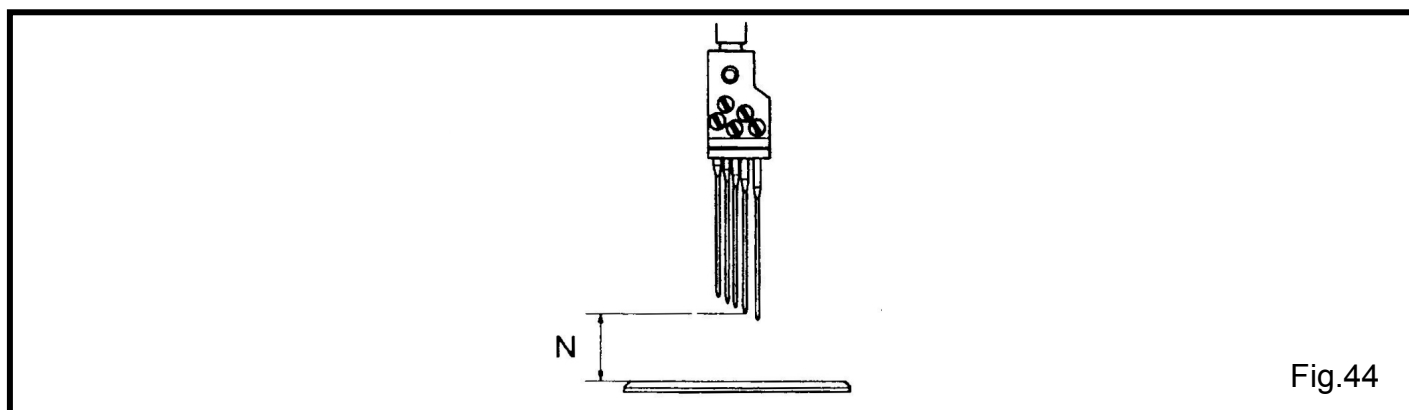
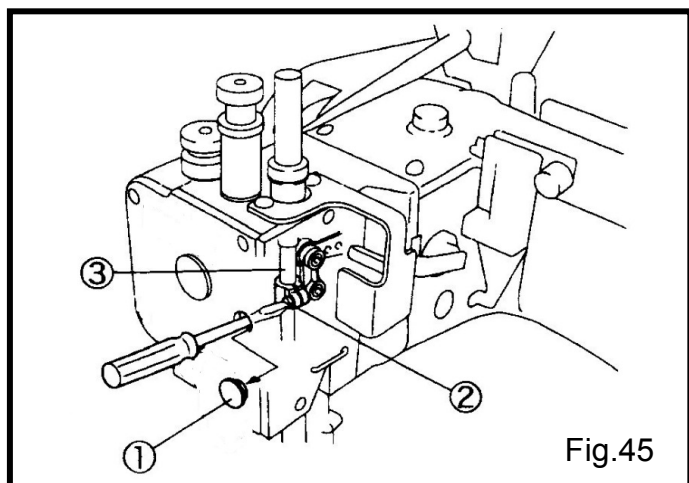
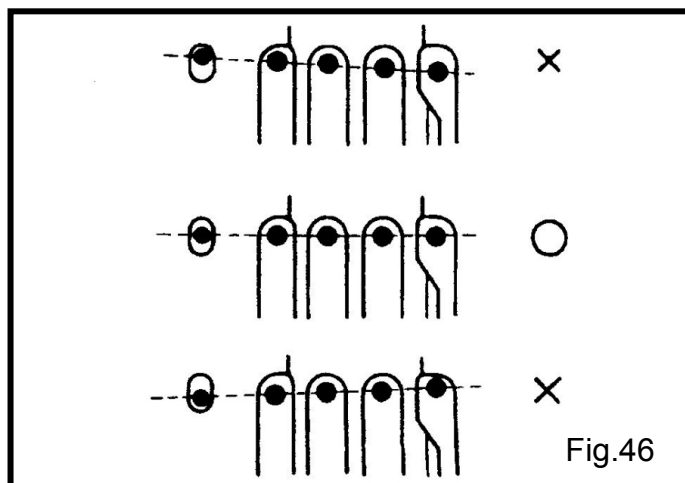

Fig.44
Fig.45
Fig.46
The moment the top cover thread is hooked with the top cover thread hook④ (Fig. 45), the thread is held at the point 0-1.0 mm apart from the top of the take-up⑤. Loosen the screws⑥ to adjust it.(Fig.44)
第四支針跟針板的距離為“N”的高度，但針距大小不同，高度就不同，如表格四所示。(Fig.44)
Make height “N” of the needle from the top of the stitch plate to the tip of the fourth needle from the left when the needle is at the highest point.(Fig.44)
- (1) 移開油塞 ①。(Fig.45)
- (2) 鬆開螺絲 ②。
- (3) 上下移動針柱 ③ 去調整，針與針孔須保持平行。(Fig.46)
- (4) 鎖緊螺絲 ②。
- (5) 裝回油塞 ①。
- (1) Remove the seal plug ①.(Fig.45)
- (2) Loosen the screw ②.
- (3) Move the needle bar ③ up or down to adjust the height. Check the alignment.( Fig. 46.)
- (4) Tighten the screw ② screwruely.
- (5) Reset the seal plug ①.